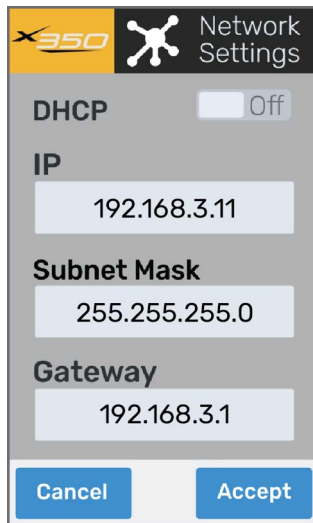

Figure 26 - X350 Network Settings
1. On the touchscreen, tap the **Network Settings** button (**Figure 26**).
The network settings appear (**Figure 26**).